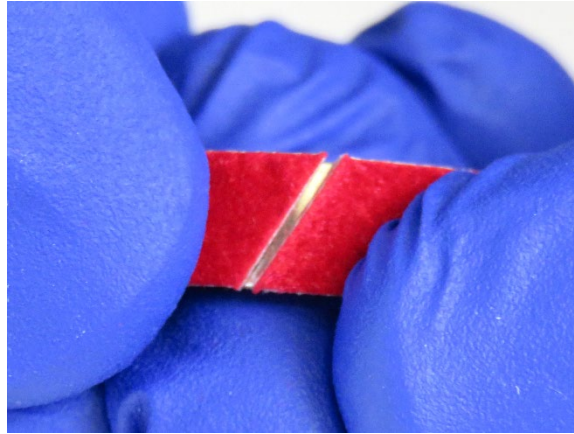

Figure 6: *Joining the Cloth around the Tool*
- Then press these ends down/together onto the tool (**Figure 6**). The cloth will relax slightly over time, and getting the tension correct ensures that gap at the joint is minimal. A small gap has been found to be acceptable and does not impede sample processing.